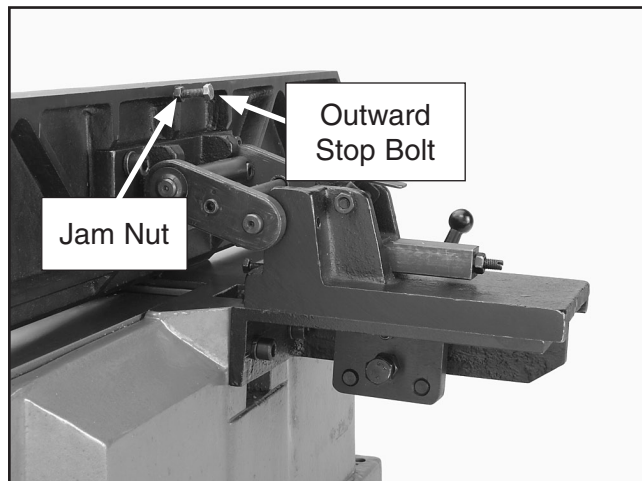

Figure 28. Outward stop bolt detail.
5. With the outward stop bolt resting against the fence bracket, use an 8mm wrench to adjust the length of the stop until the fence is at 45°, then tighten the jam nut (see **Figure 28**).